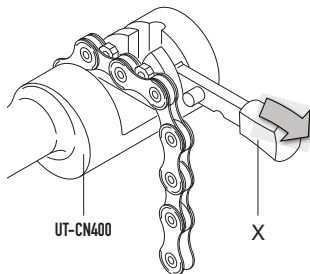

Fig.3
- Prepare the tool **UT-CN400** by positioning the tongue in open mode (X - Fig. 3).
- fit the link to be opened in tool **UT-CN400** (Fig. 3) taking care to end with an internal link;